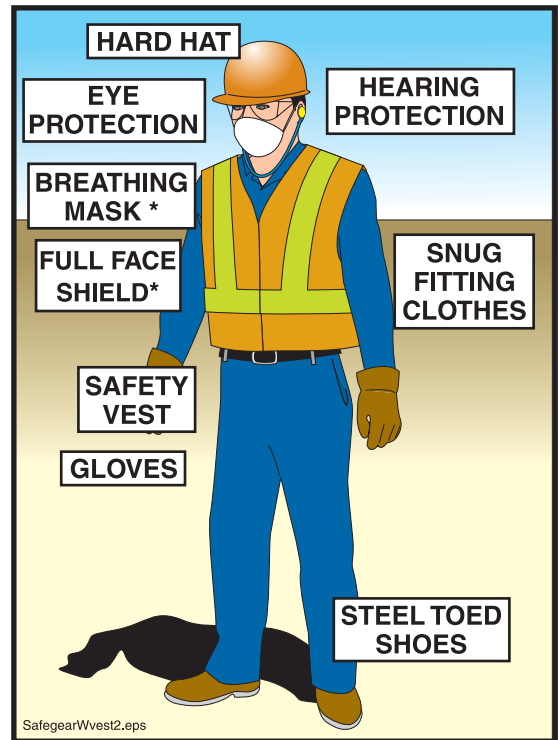

Figure 12
6.3 **⚠️ WARNING** When operating the machine, **wear Personal Protective Equipment.** (Including *full face shield or *breathing mask where necessary as shown in Figure 12.)